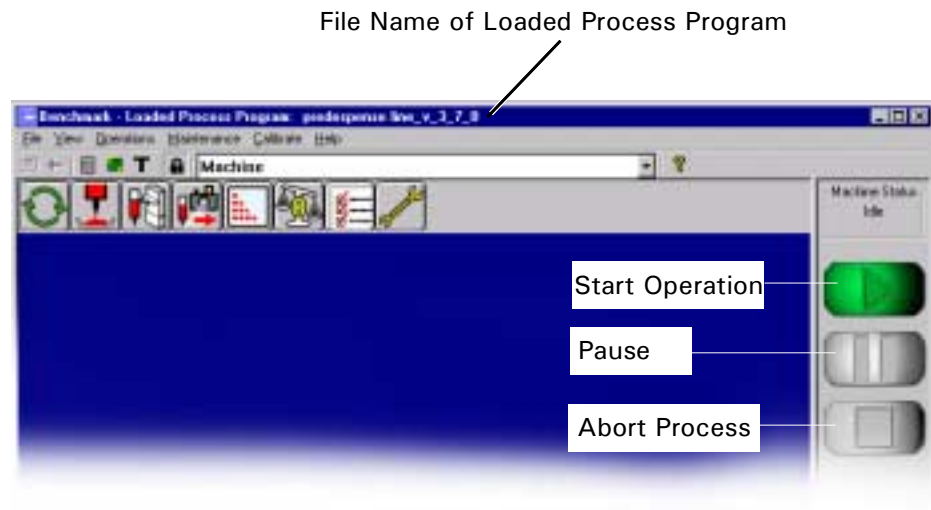

Figure 8-35
7. Select the **Start Operation** button on the **Machine** screen. See Figure 8-35.